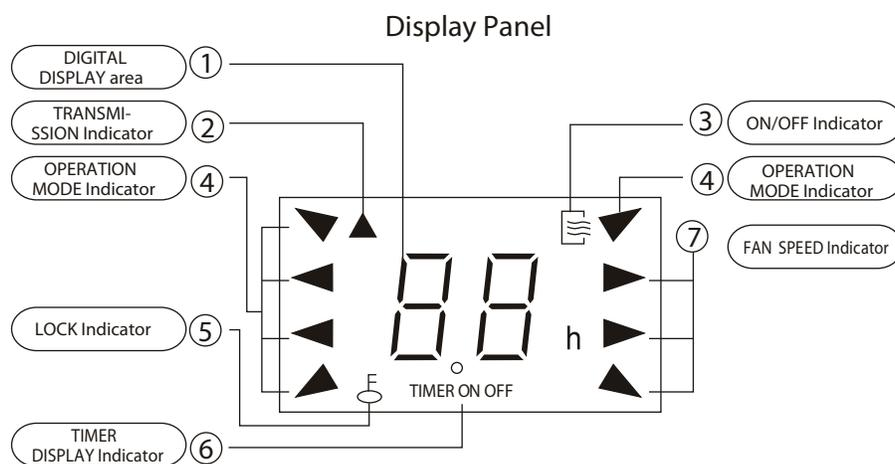

Fig. 2
**NOTE:** All signs shown in the Fig.2 is for the purpose of clear presentation. But during the actual operation only the relative functional signs are shown on the display panel.